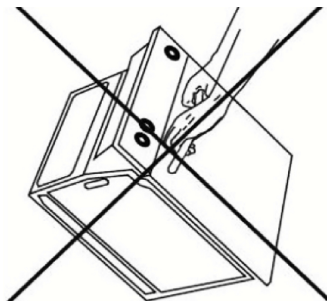

Figure 14
- Do not use the oven door handle to move the appliance, such as to remove it from the packaging. (See Figure 14)